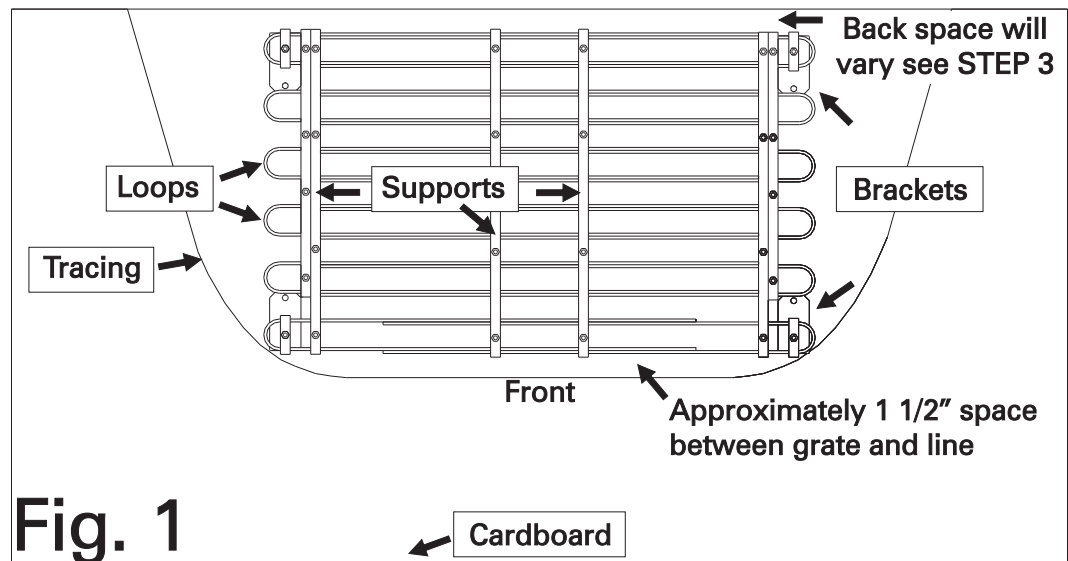

Fig. 1
2. Lay cardboard template on flat surface, place grate on top with bottom side facing up (nuts are on bottom side). Be sure front of grate, as marked is facing front (curved side) of tracing (SEE FIG. 1).
3. Maintain a space between grate and front of tracing approximately equal to spaces within grate. Space between grate and back edge of cardboard will vary. Grate should remain parallel with back edge of cardboard with no less than 1/8" space to insure grate will fit into well after adjustment (SEE FIG. 1). If back space exceeds 4" then expansion kit or larger grate is needed, check size chart on box top.